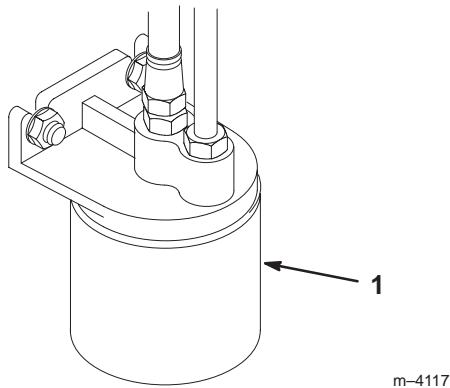

Figure 45
- Place a drain pan under the filter, remove the old filter, and wipe the filter adapter gasket surface clean (Fig. 45).